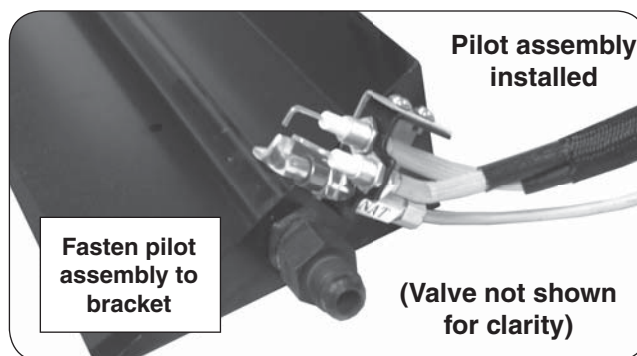

Fig. 8-1
1. Using the two (2) remaining screws, mount the pilot assembly onto the bracket (from below) and tighten until snug (Fig. 8-1). **Check to be certain the pilot hood and probes are situated above the edge of the pan. Adjust if necessary.**